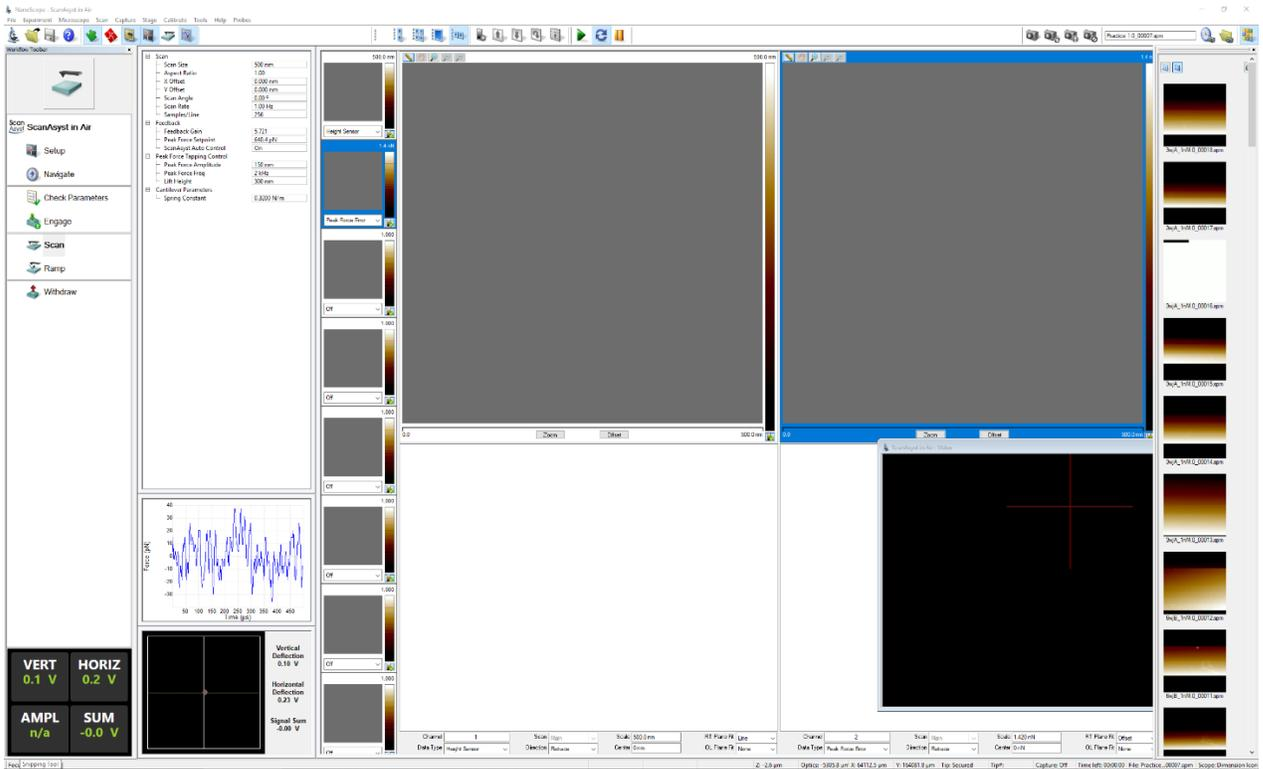
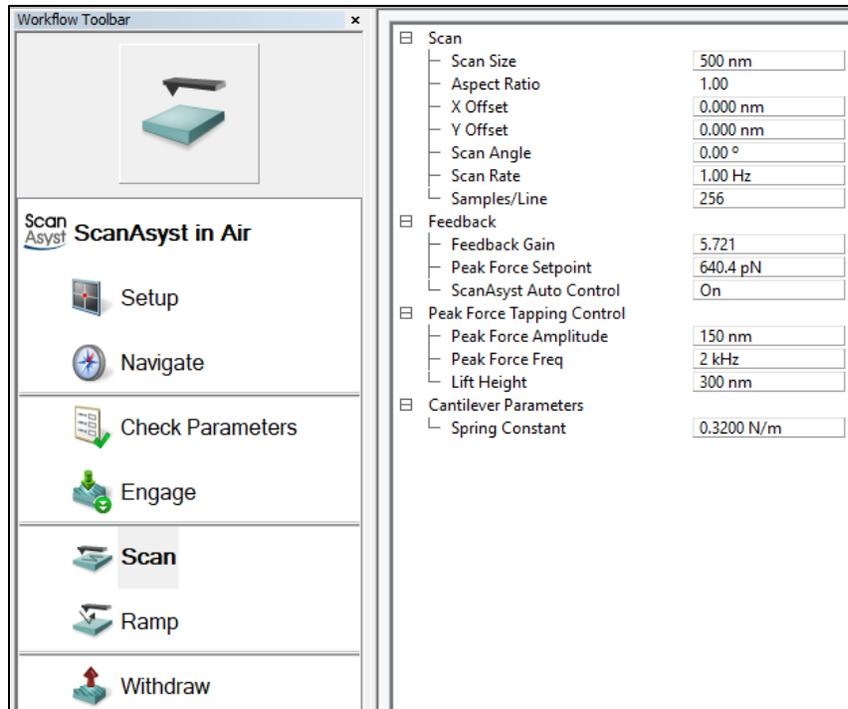

Figure 6. ScanAsyst in Air Experiment Page on NanoScope Software
Figure 7. Workflow Toolbar
13. After clicking "Load Experiment," the experiment page, as shown in Figure 6, will open. By default, the Workflow toolbar will appear on the left side, including the Setup, Navigate, Check Parameters, Engage, Scan, Ramp, and Withdraw sections, as in Figure 7. Scan and feedback parameters can also be found in this section.